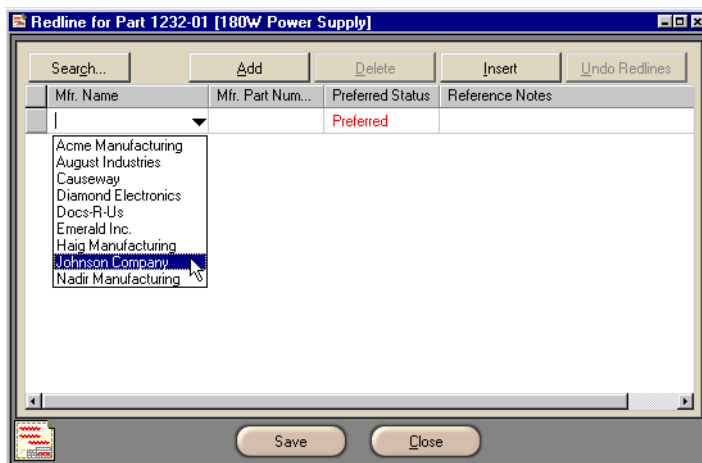

Figure 5-13: Selecting from the drop-down list of Manufacturers, Agile CM
3. Click the selection list arrow to display a list of Manufacturers. (See Figure 5-13.) If the Manufacturer object has not yet been created, you can create it on-the-fly by entering the Manufacturer name in this field. (See “Using Quick Item Create” on page 4-22 for details.)